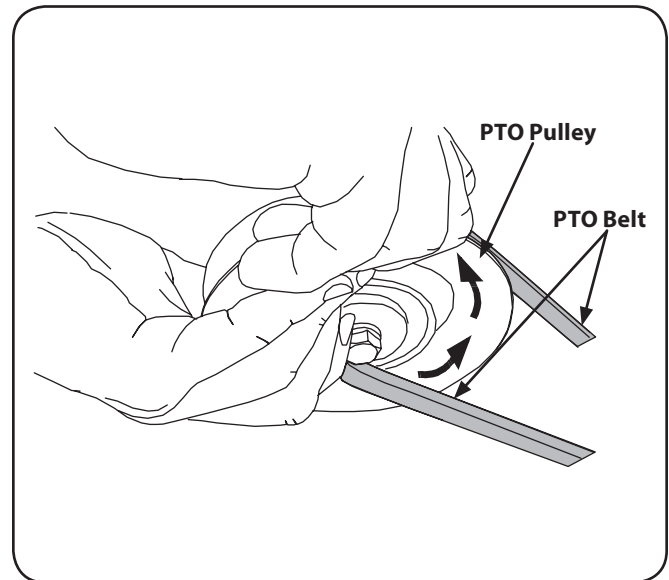

Figure 7-7
8. While holding the belt and pulley together, rotate the pulley to the left. Continue holding and rotating the pulley and belt until the belt is fully rolled into the PTO pulley. See Fig. 7-7.